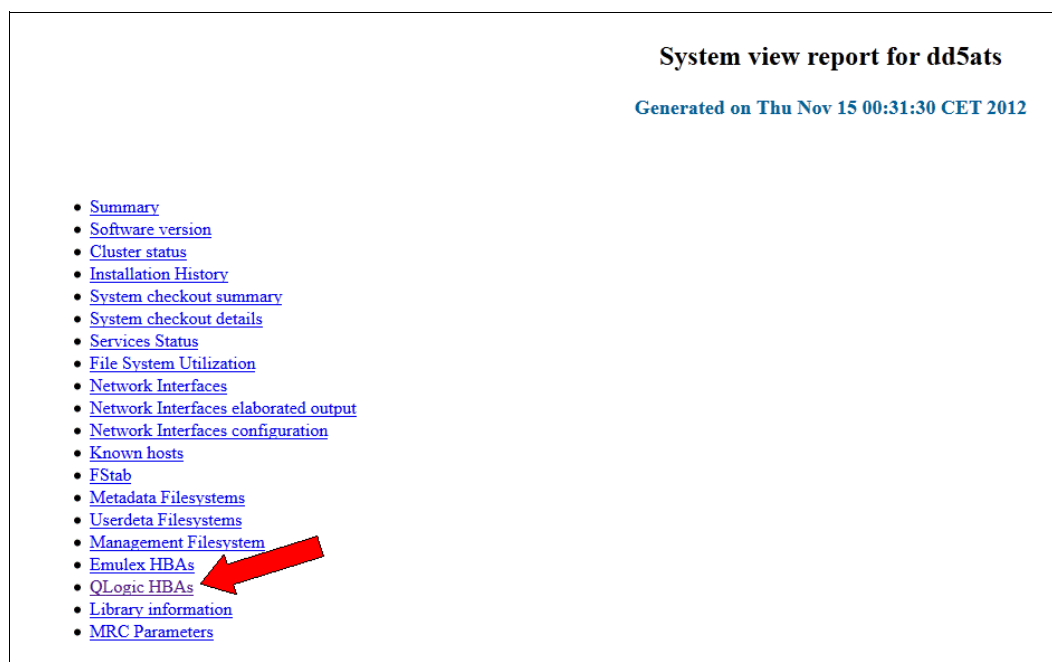

Figure 10-14 Browser showing the `systemview.html` file
2. Open the `systemview.html` file with a browser and you see a list of items that you can select. Click **QLogic HBAs**, as shown in Figure 10-14.